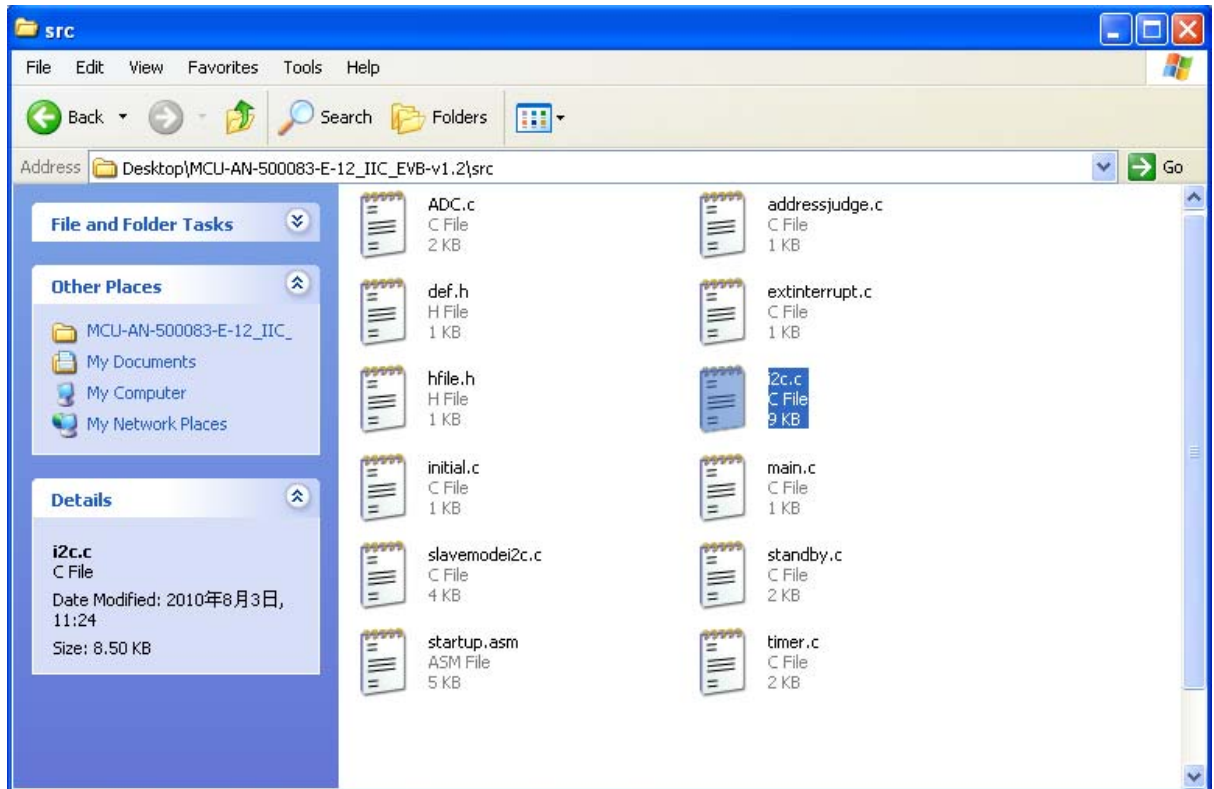

Figure 4-1: First Step of Use I2C Library
- ✧ First step is adding I2C library to project document, Figure 4-1 is a sample for adding this library.